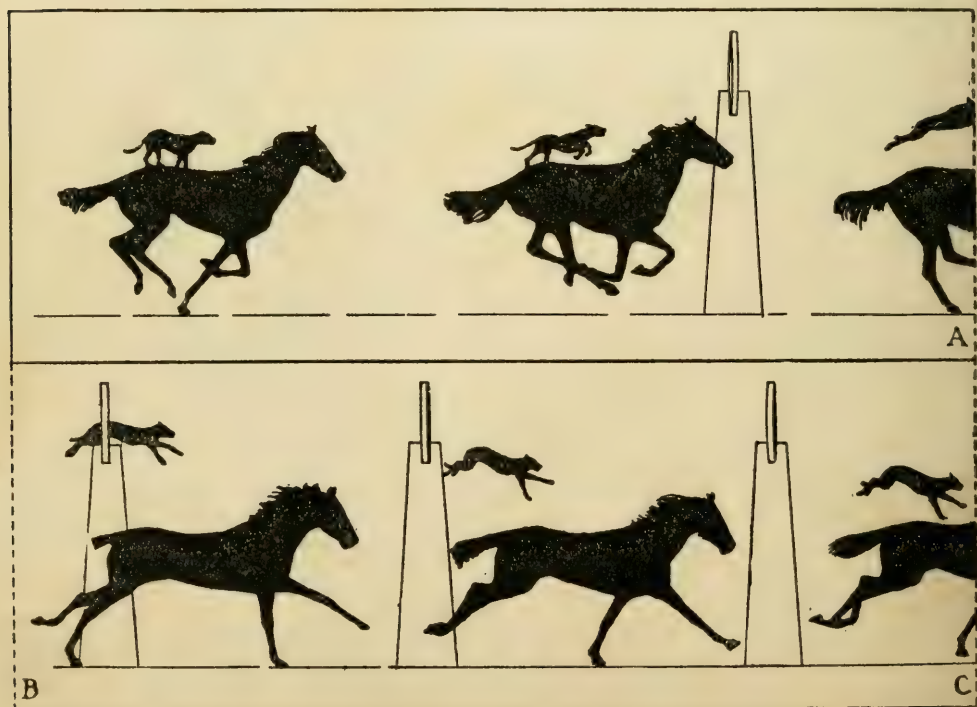

FIG. 356. — Moving Picture Set No. 2.
**The Circus Horse and Hound Pictures** (Fig. 356). Each set when joined together end to end will make a strip just long enough to reach around the inside of the cylinder. They are drawn full size, so all you will have to do will be to trace them off upon a piece of transparent paper and then transfer them upon a piece of heavy paper or light-weight cardboard, plac-